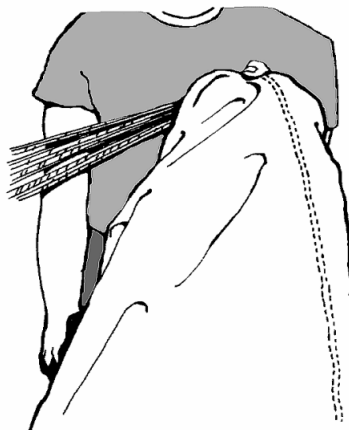

Figure 7
Step 8.) Place the trailing edge of center cell (indicated by the Data-panel) under the thumb and lift the canopy. (See Figure 7.)